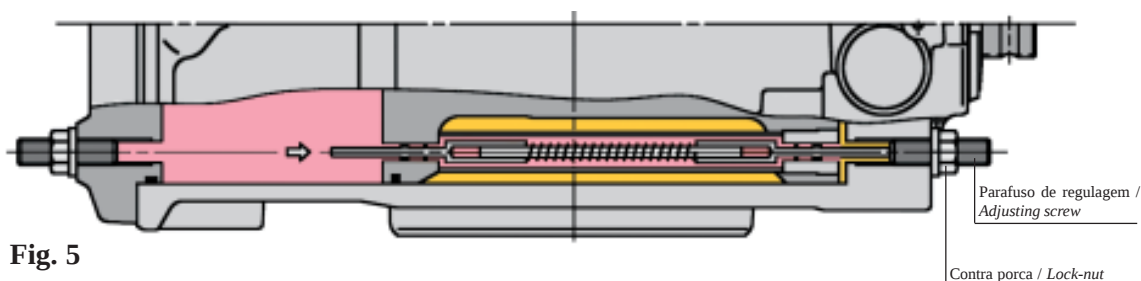

Fig. 5
2.1 Regulagem manual (Fig. 5)
2.1 Manual adjustment (Fig. 5)